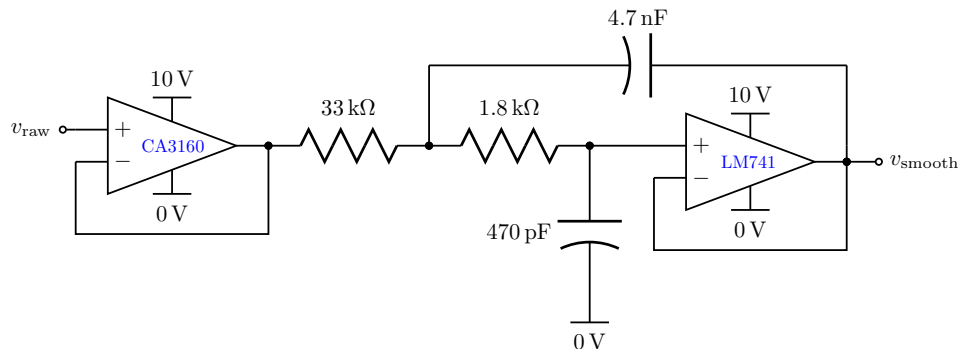

Figure 3.3: Sallen-and-Key Butterworth  $\sim 13.8$  kHz low-pass filter with input buffer.
1. Build the input-buffered Sallen-and-Key Butterworth low-pass filter in **Figure 3.3 BELOW**.